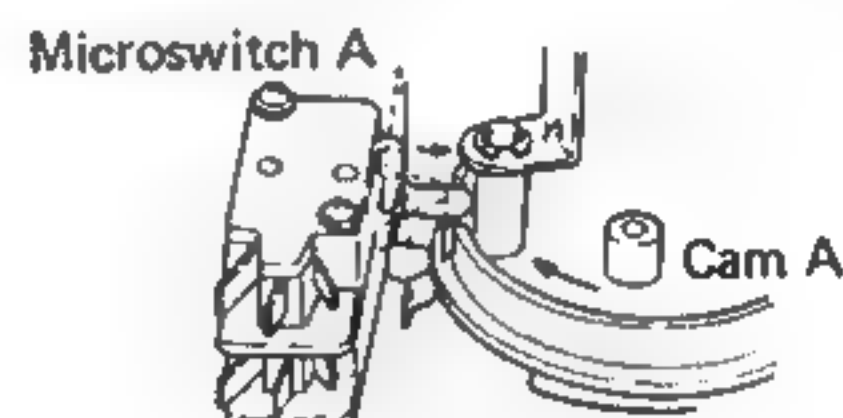

Fig. 13
9. At this point, microswitch A is switched OFF by cam A, cutting off the power supply (Fig. 13).